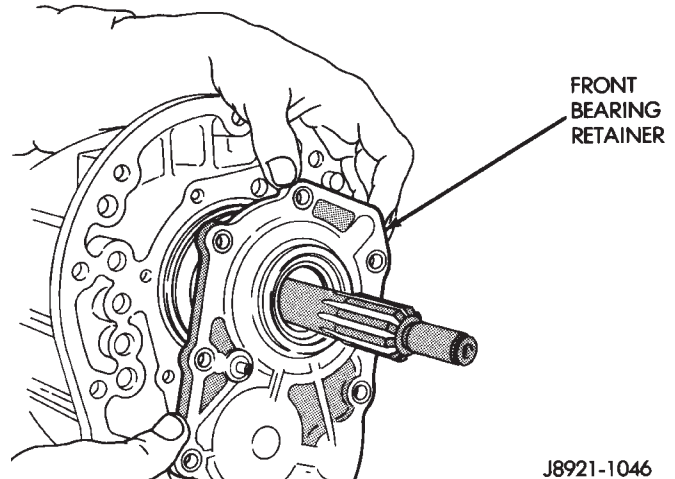

Fig. 36 Install Front Bearing Retainer
- (5) Install front bearing retainer gasket to front bearing retainer.
(6) Install the front bearing retainer (Fig. 36) and tighten bolts to 17 N·m (12 ft. lbs.).
(7) On 4x2 transmissions;